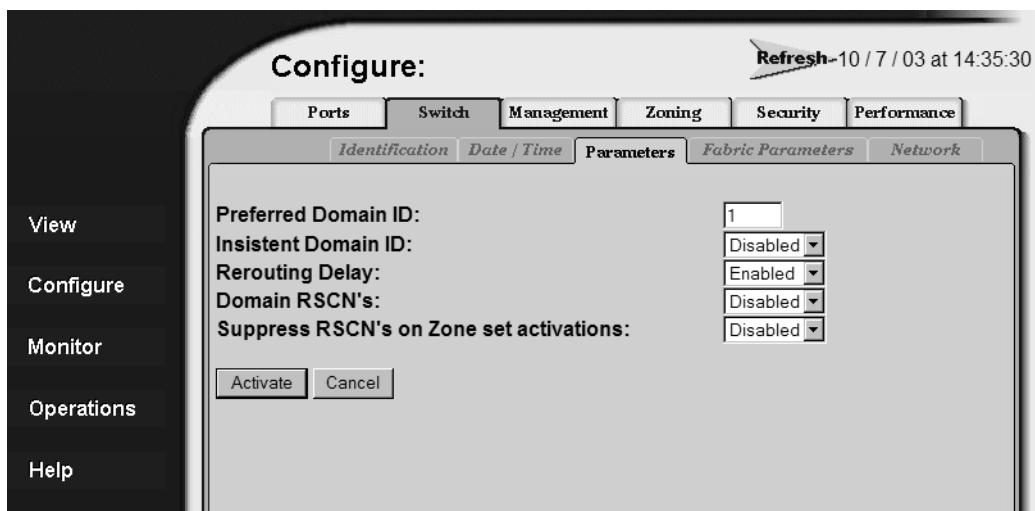

Figure 17: Switch page—Parameters tab
3. Choose **Switch >Parameters** to display the **Parameters** tab (Figure 17).